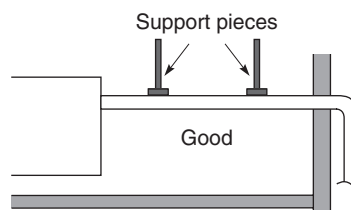

Fig. 1-79
- Do not apply force to the piping on the unit side when connecting the drain pipe. The pipe should not be allowed to hang unsupported from its connection to the unit. Fasten the pipe to a wall, frame, or other support as close to the unit as possible. (Fig. 1-79)